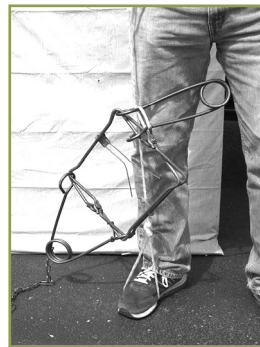

Figure FS5c. Step 3
- 3) Place your foot in the looped end of the rope and pull the other end with your free hand until you can set the safety latch for that spring. (Figure FS5c).